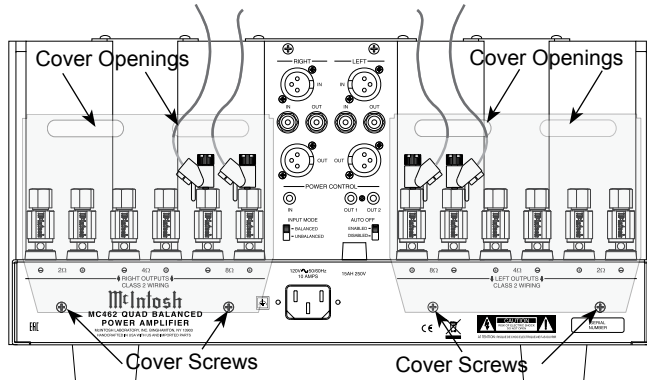

Figure 5 (Inside USA and Canada)
7. Locate the Terminal Connections Covers from the inside of the MC462 shipping carton. Insert the just prepared Loudspeaker hookup cables thru the cover openings, one cover for each channel. Refer to figure 5.
Note: The illustration in figure 5 is connections for 8Ω (ohms) Loudspeakers.
11. Attach the Terminal Connections Covers to the MC462 Rear Panel with the previously removed Screws. Refer to figure 5.